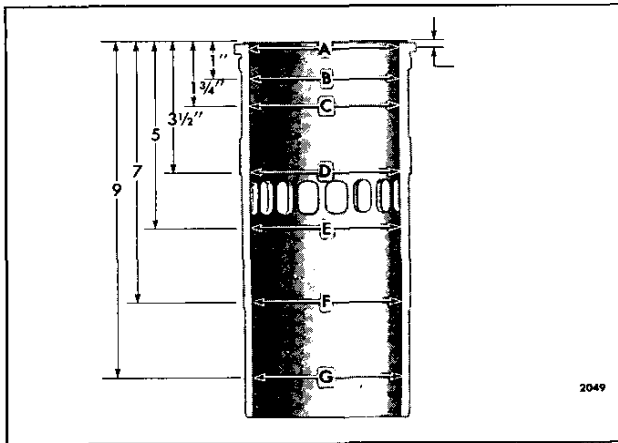

Fig. 4 - Cylinder Liner Ridge Due to Wear
2. To remove the ridge (Fig. 4) formed at the top by the piston ring travel. Otherwise, interference with the travel of the new compression rings may result in ring breakage.